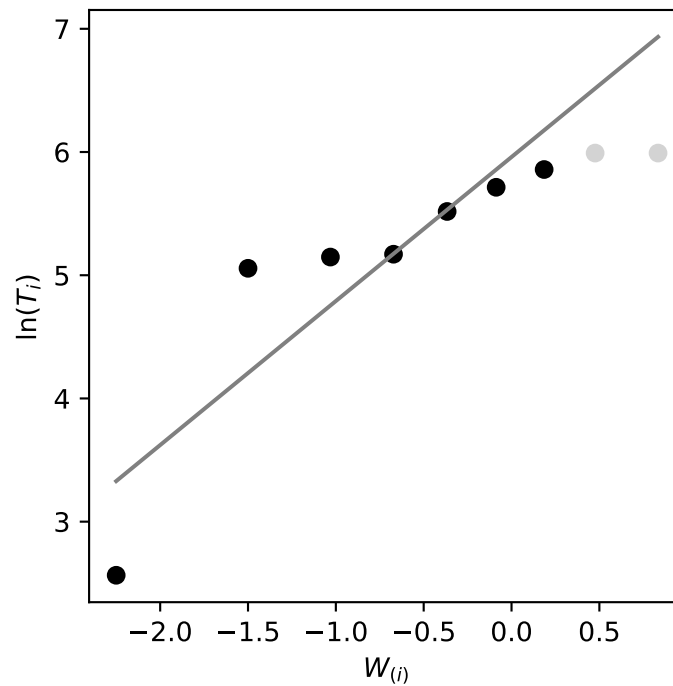

Fig. 9.4: Weibull probability plot
**Solution 9.21** The  $Q$ - $Q$  plot is given in Fig. 9.4.